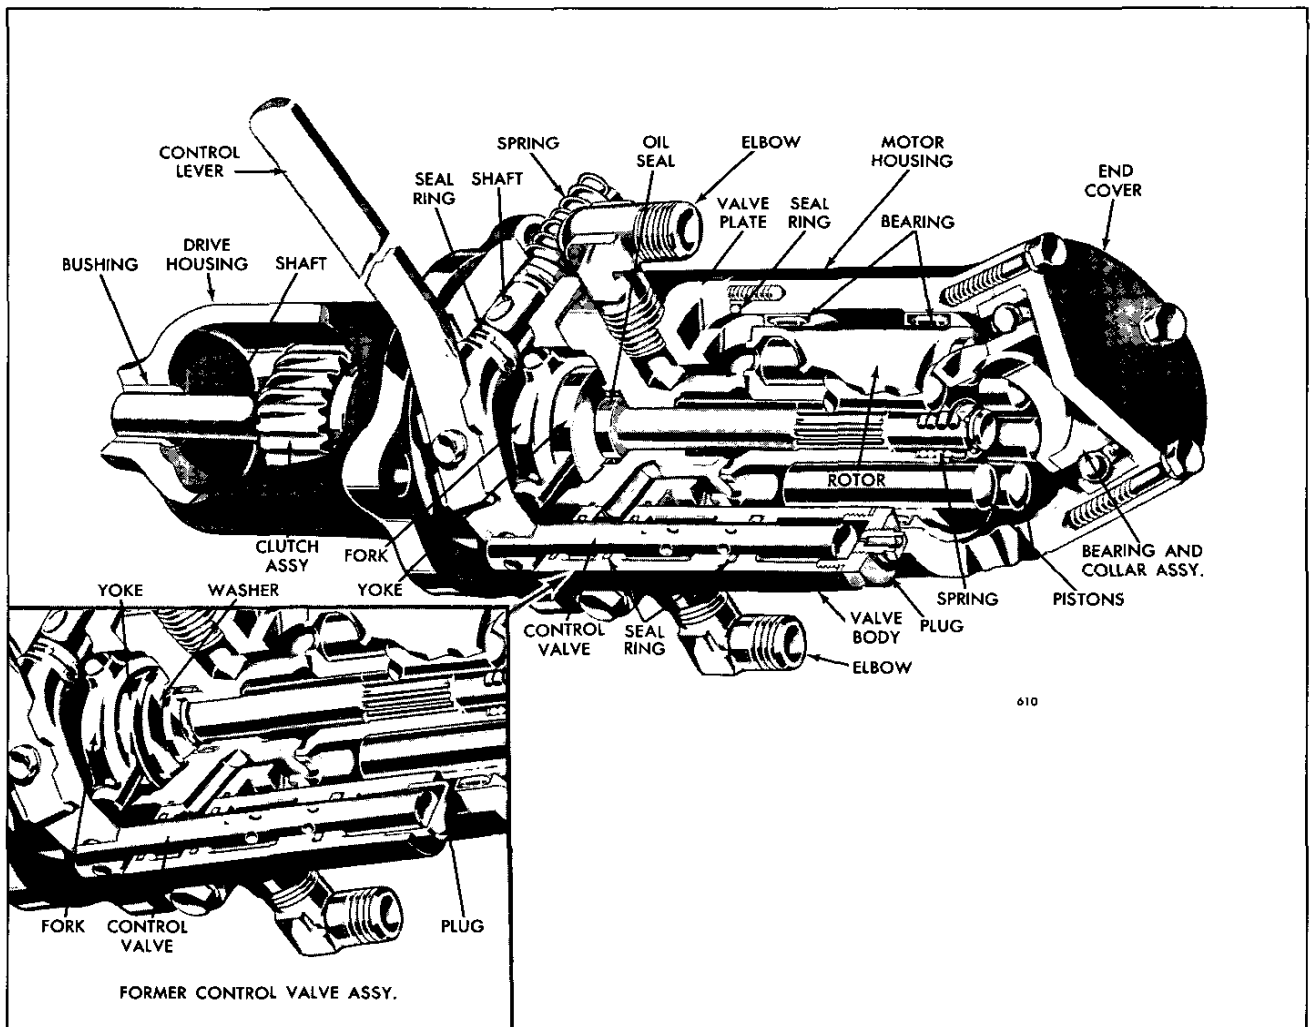

Fig. 4 - Cutaway View of Hydrostarter
With the engine controls set for start (throttle at least half-open), push the control lever (Fig. 4) to simultaneously engage the starter pinion with the flywheel ring gear and to open the control valve. Close the valve quickly when the engine fires to conserve the oil pressure in the accumulator and to prevent excessive overrunning of the starter drive clutch assembly.
The Hydrostarter (starting) motor is mounted on the flywheel housing in the same manner as a conventional starting motor. This starting motor has an inherently high rate of acceleration; therefore, the engine is cranked faster than is possible with other starting systems. Right and left-hand starters are achieved by assembling the motor housing (Fig. 4) to the valve plate in one of two positions 180° apart and by changing the drive clutch assembly. The drive housing can be adjusted in 12 different positions to accommodate various flywheel housing configurations.
With the exterior of the Hydrostarter motor cleaned, scribe marks on the drive housing, clutch housing, valve plate and motor housing prior to disassembly to ensure their correct reassembly. Refer to (Figs. 4 and 6) and proceed as follows:
8. On a Series "20" Hydrostarter motor equipped with the former control valve assembly, shown in the inset in (Fig. 4), remove the drive shaft oil seal washer from the starter shaft.
The rotor bearings (Fig. 4) should not require replacement; however, if they are worn excessively, a new motor housing and bearing assembly must be installed.
The washer between the shaft seal and the clutch yoke (see inset in Fig. 4) is used **ONLY** in the early Series "20" Hydrostarter motors with the former type control valve. If the Hydrostarter motor is overhauled, and a new control valve assembly is installed, remove the washer. However, if the control valve assembly is replaced and the motor is not disassembled, the washer may be left in the motor.
Refer to (Figs. 4 and 6) and assemble the Hydrostarter motor as follows:
The starter shaft oil seal washer, mentioned in Step 10, is only used on Series "20" Hydrostarter motor assemblies using the former control valve assembly shown in the inset in (Fig. 4).
On a former (Series "20" motor) control valve body, shown in the inset in (Fig. 4), press the cup plug against the shoulder in the control valve body.